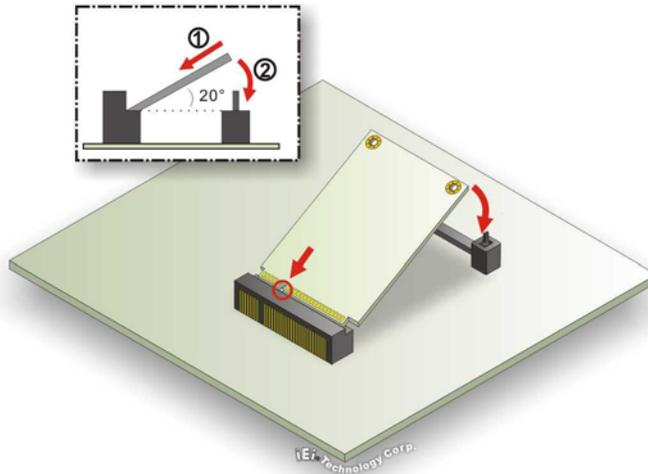

Figure 5-3: mSATA Module Installation
Step 4: Insert a new mSATA module into the socket at an angle. Line up the notch on the card with the notch on the connector. Slide the mSATA module into the socket at an angle of about 20° (Figure 5-3).